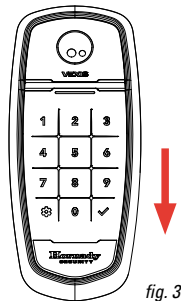

fig. 3
3. Place keypad housing back over studs on safe or vault door making sure to not pinch cable. Slide down until it clicks and is secure (Figure 3).